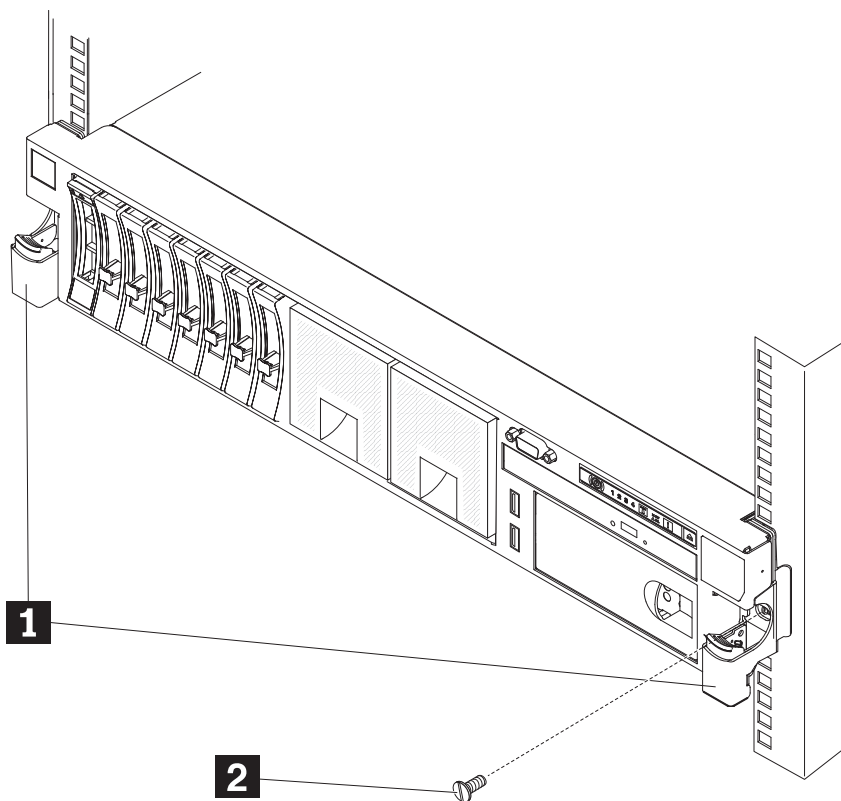

Figure 28. Installing the front screws
9. Optional: Install the front screws, as shown in Figure 28 on page 34.